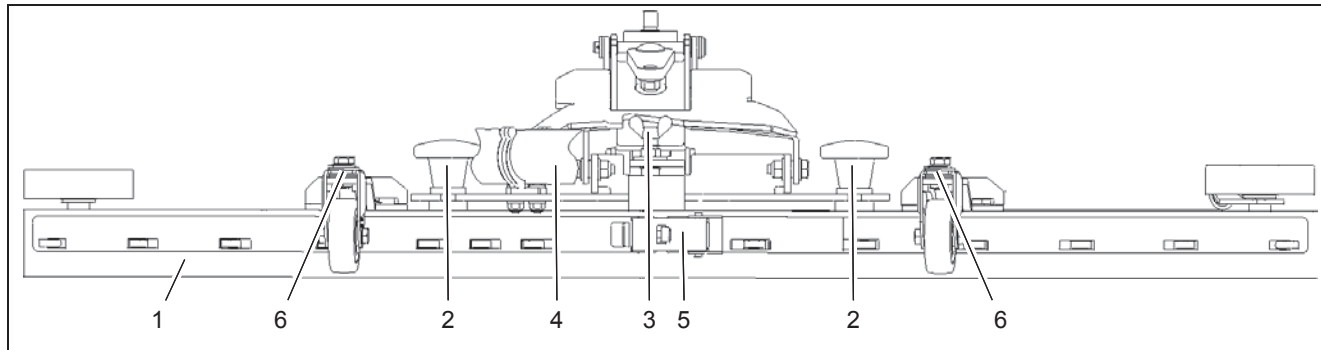

Fig.12
Check the squeegee (Fig. 12/1) daily and clean as necessary.
To clean it lift the squeegee out, pull off the suction hose (Fig. 12/4), loosen the two star-shaped knobs (Fig. 12/2) and remove the squeegee.
Check the inner and outer sealing strips on the squeegee (Fig. 12/1) weekly for signs of wear. The sealing strips can be used fourfold by turning them.
3. Unlock the fastening device (Fig. 12/5) and remove the outer sealing strip. Turn the sealing strip or install a new one, as necessary. Change the inner sealing strip in the same way.
2. Loosen the counternut on the adjusting screw (Fig. 12/3) and adjust the squeegee using the adjusting screw so that the ends of the sealing strips still have contact with the floor.